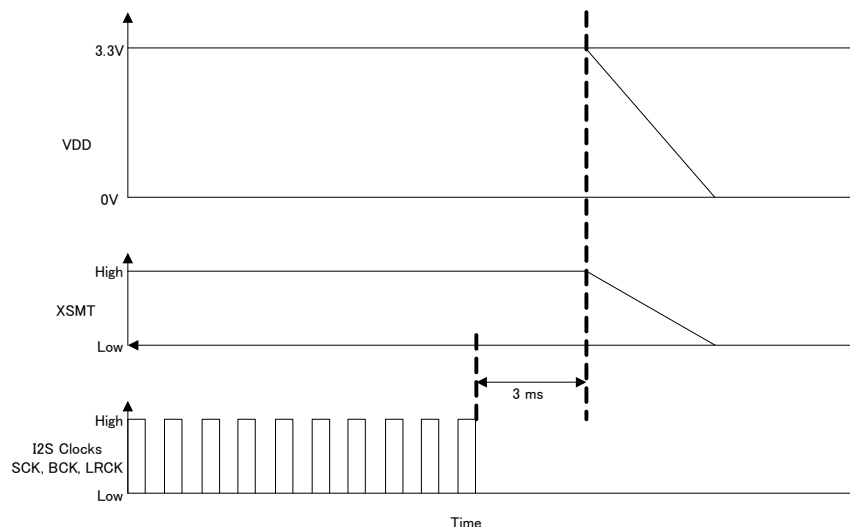

Figure 81. Stop I2C Clocks
2. Stop I2S clocks (SCK, BCK, LRCK) 3 ms before powerdown as shown in Figure 81.